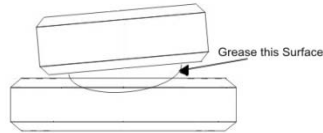

Figure 2 – Tilt Saddle.
- ⚠ Always use a flat, hard surface as a cylinder support plate. To reduce cylinder offset loading, optional tilt saddles are available. Always use grease underneath swivel saddles (see Figure 2).